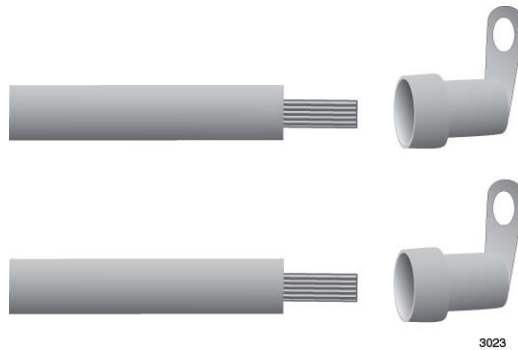

Figure 143. Attaching the Power Wires to the Right Angle Terminals
2. Insert the power wires into the right angle terminals included with the power supply and use a crimping tool to secure the wires to the terminals. See Figure 143.